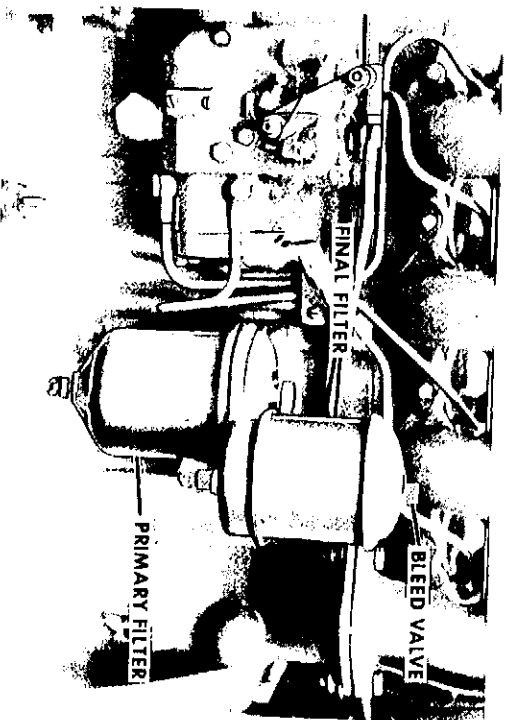

Figure 57
4. Open the bleed valve on the final filter. Figure 57, and allow the air to bleed out of both the filters. When the bubble free fuel starts to flow, close the bleed valve and wipe the parts free of diesel fuel.